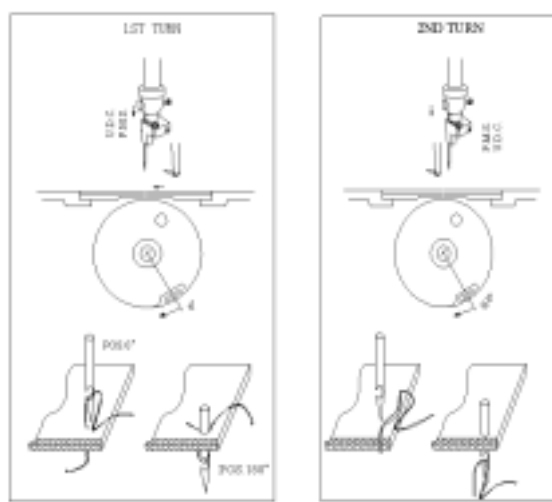

FIG. 5,6
The first cycle begins with the threaded needle that descends from the U.D.C. (Upper Dead Center) with the upper hook (46), beginning the stroke in which it picks up the thread on the needle, and finishes with the needle back at the U.D.C. without the thread while the upper hook is in a resting position behind the needle. FIG. 5